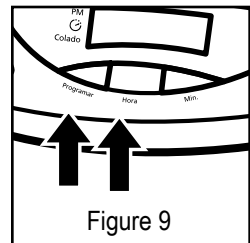

Figure 9
2. While pressing and holding the “Programar” button, press and hold the “Hora” button until the clock displays the hour you desire. The PM indicator will light to indicate a PM time; if the PM indicator is not lit, the time is AM. See Figure 9.